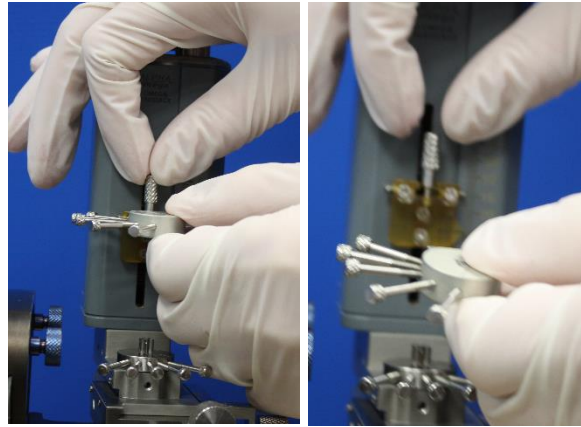

Figure 108: Removing the Electrode Holder
3. Remove the electrode holder (Figure 108), leaving the cannula connected to the Bengun.